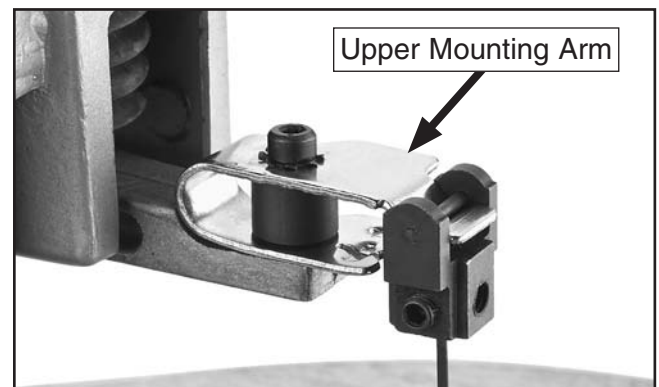

Figure 31. Adapter with plain-end blade installed on upper mounting arm.
7. Slide one end of the blade assembly through the table hole, and place the adapter over the upper mounting arm (see **Figure 31**).